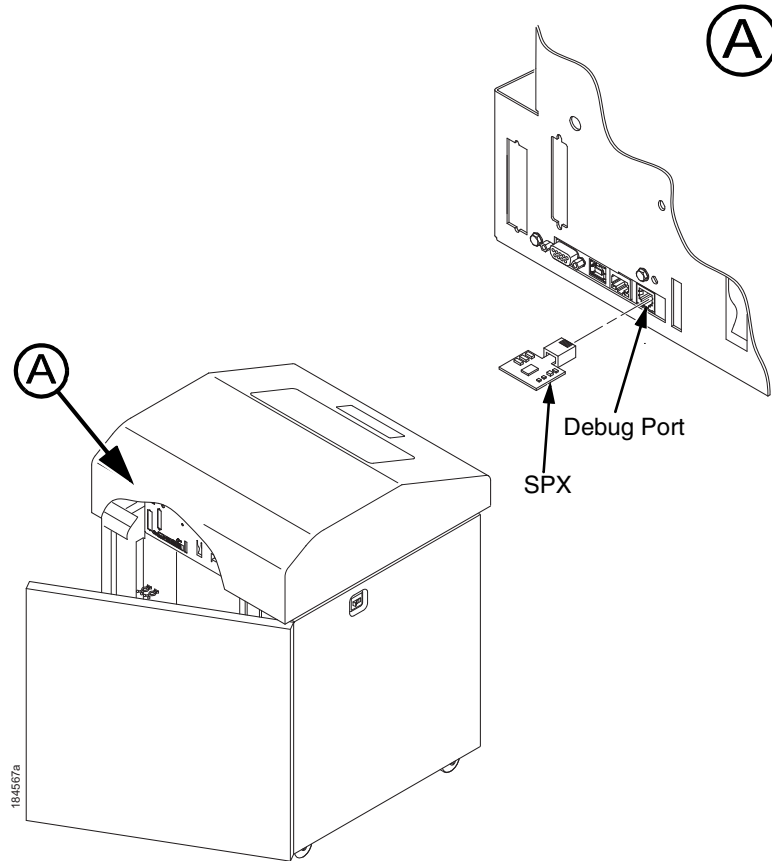

Figure 24. Inserting The SPX into the Debug Port
2. On cabinet models, open the rear door. On pedestal models, refer to Figure 24 to locate the debug port at the rear of the printer.